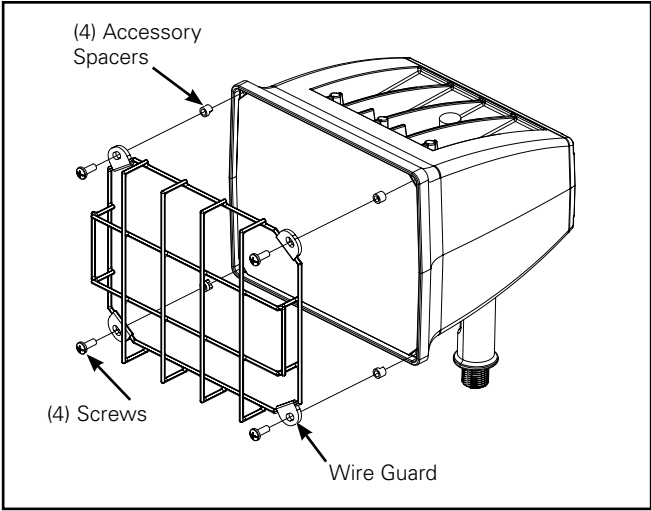

Figure 7.
4. Align wire guard on top of accessory spacers matching the (4) existing holes. (Figure 7.)
5. Add (4) 10-24 Philips head screws to the face of the fixture to tighten the wire guard.